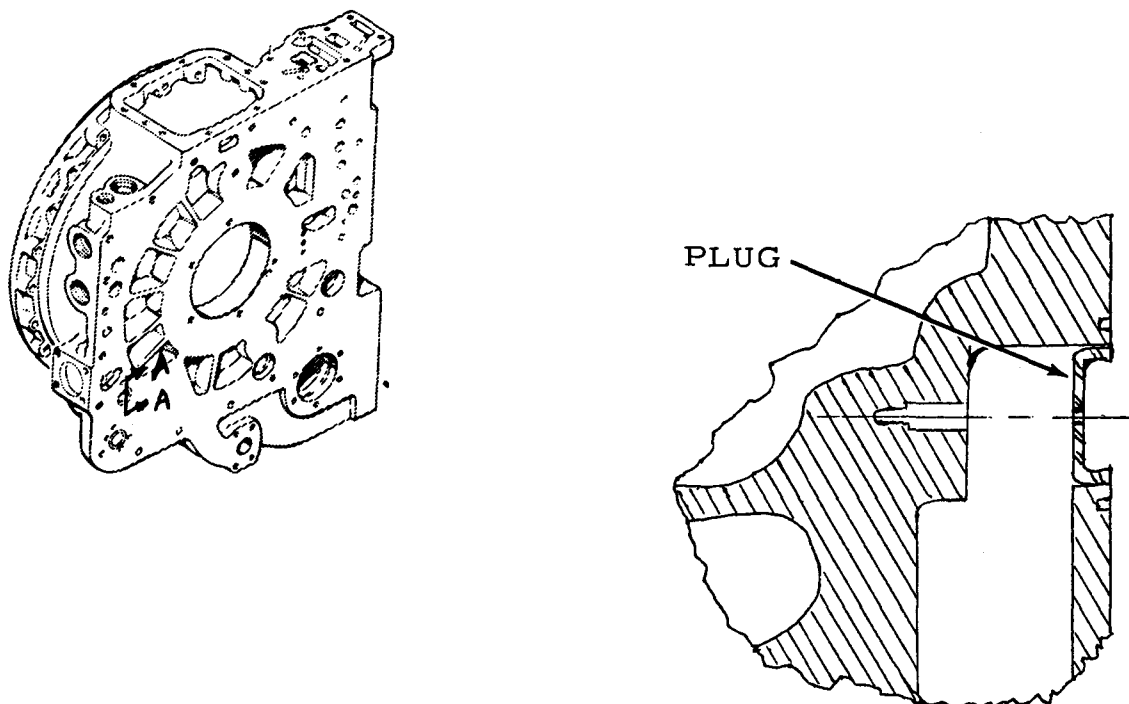

FIG. 2. ORIFICE PLUG INSTALLED IN CONV. HOUSING. (REPLACES THE CHECK VALVE COMPONENTS AT THIS PORT ON NON-OUTPUT OIL PUMP TRANSMISSION ASSEMBLIES.)
An orificed plug has been released to replace the output oil pump check valve, spring and guide located in the converter housing of the subject transmissions (Figure 1). The check valve components are required in transmissions incorporating an output (push start) oil pump assembly, however, this pump assembly was eliminated from Production build transmissions at serial number (S/N) 47641. The new plug (Figure 2) reduces the number of parts necessary at this location and provides a metered (orificed) lube oil flow back thru the oil passage for speedo gear requirement in straight-thru model transmissions. Previously, speedo lube was supplied by output pump oil and later when it was removed, by input pump oil bleeding back thru the check valve to the gears.
2. Install plug, cup side out, into converter housing flush with the housing splitline as illustrated in Figure 2.